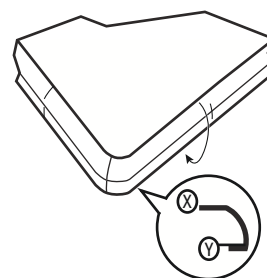

Figure 12. Apply adhesion promoter between X and Y
2. Apply adhesion promoter to the edges, starting about 1/2 inch from where the shape changes (see Reference X) and extending to the back side of the surface for at least 1/2 inch (see Reference Y). Allow the adhesion promoter to dry to improve adhesion and minimize shrinkage. See Figure 12.